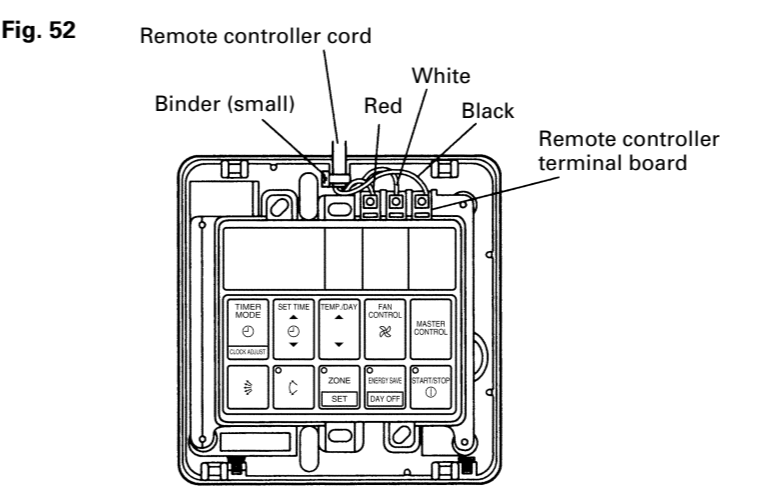

Fig. 53
- Clamp the remote controller cord to a wall, etc. with the remote controller cord clamp furnished (Fig. 53).